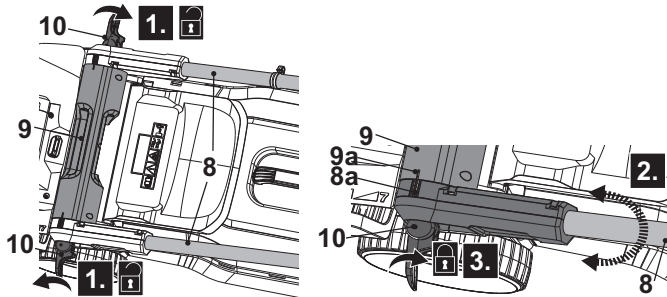

Fig. 10
1. Unfold and loosen the clamp levers (10) anti-clockwise on both sides of the lower handle bars (8), but do not remove them (Fig.10, step 1).
2. Hold and swing the handle assembly gently to the desired position by aligning the indication line (8a) with the indicator (9a) of transport handle (9) (Fig. 10, step 2). Ensure the handle assembly is assembled on the same height level on both side.
3. Secure the handle assembly by folding up the clamp lever (10) towards the transport handle (9). If clamp lever (10) cannot be folded, loosen it and fold again. If it is too loose, tighten it by turning the clamp lever (10) clockwise (Fig. 10, step 3).